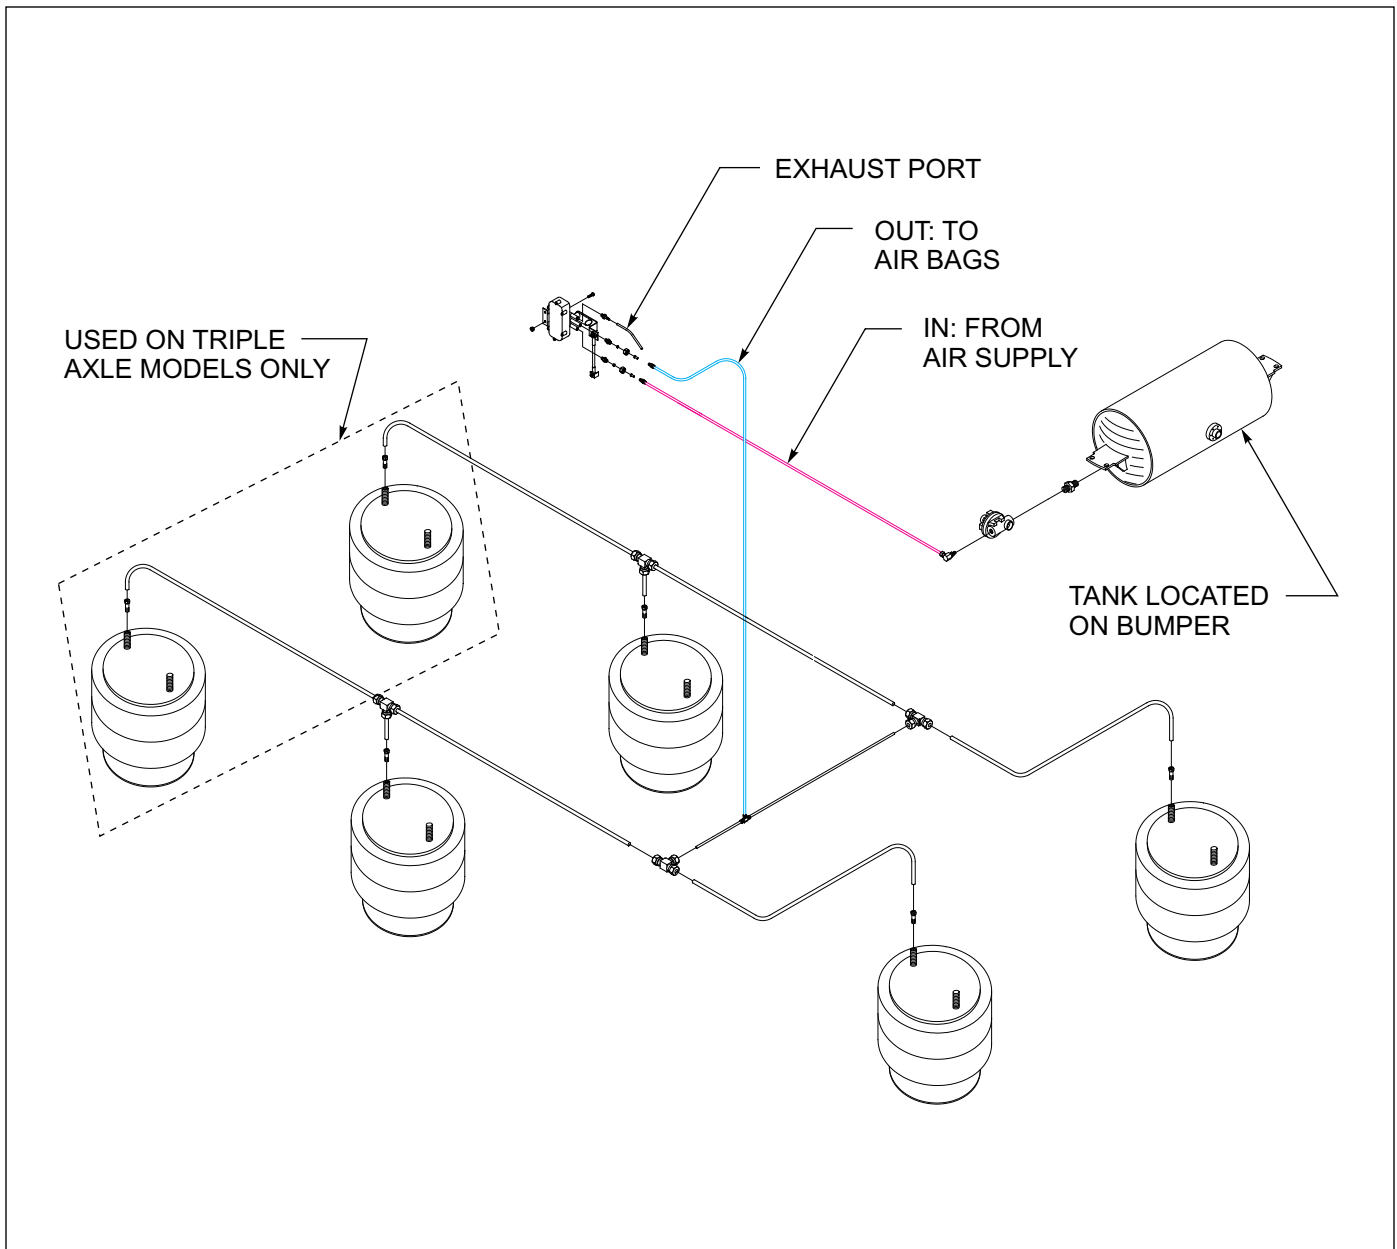

Figure 4-7: Tandem Axle Air Ride Suspension System
1. (See Figures 4-7 and 4-8) for Tandem and Triple Axle Air Ride Suspension drawings.